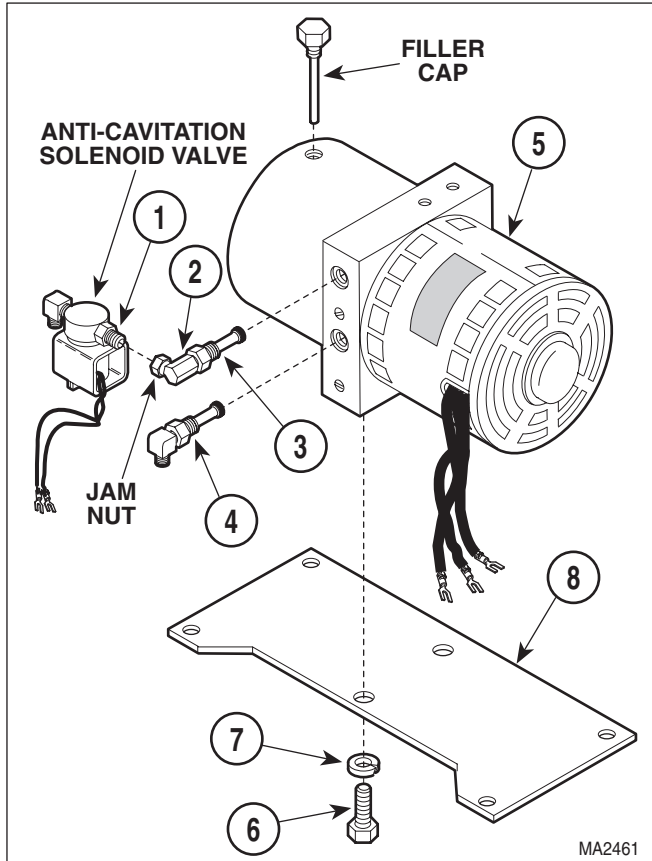

Figure 4-9.1 Motor Pump Removal / Installation
- (3) Remove filler cap and drain any remaining oil into drain pan (See Figure 4-9.1).
- (4) Using a wrench to hold male connector (1, Figure 4-9.1) stationary, loosen jam nut of elbow (2). Disconnect male connector/anti-cavitation solenoid valve from elbow.